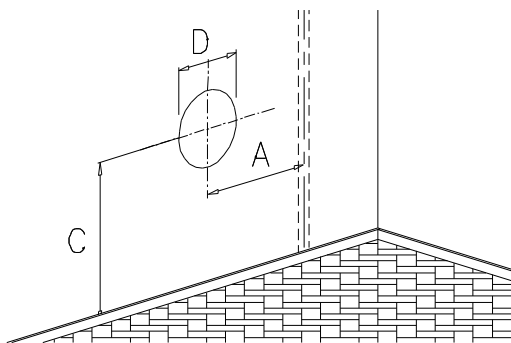

Figure 7
1. Taking into account the minimum clearances mentioned in figure 4, locate the closest wall stud (which will serve to hold the appliance) and mark the hole center at a distance "A", (if wall stud is at the right), or "B", (if the stud is at the left). See table 2 and figures 7 and 8.